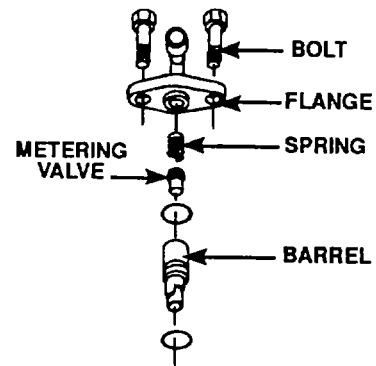

Figure 5-88. Barrel Assembly
2. Install second copper washer on copper barrel (figure 5-88).